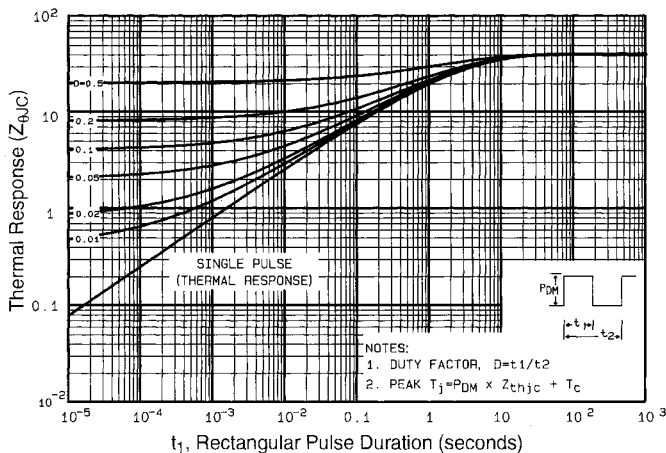

Fig 11. Maximum Effective Transient Thermal Impedance, Junction-to-Case
- ① Repetitive rating; pulse width limited by max. junction temperature (See Figure 11)
- ② $V_{DD}=50V$, starting $T_J=25^\circ\text{C}$, $L=81\text{mH}$